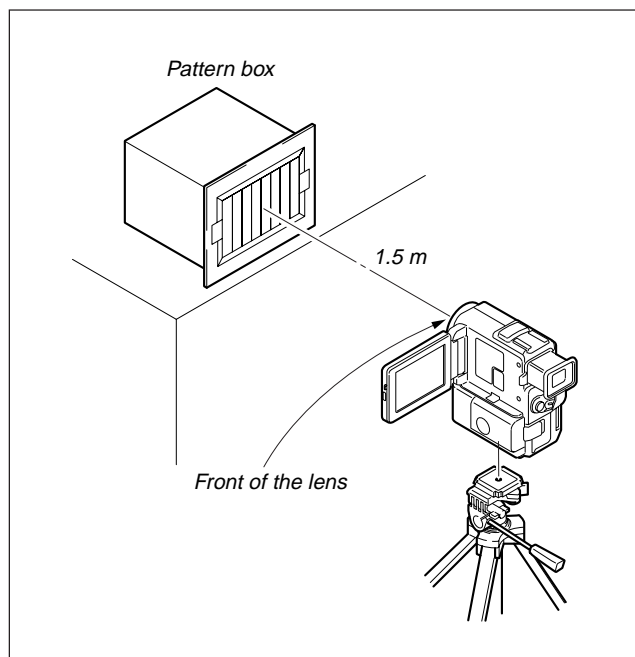

Fig. 5-1-2.
1) Connect the equipment for adjustments according to Fig. 5-1-2.
**Note 3:** As removing the control switch block (FK-30350)(removing the VC-245 board CN002) means removing the lithium 3V power supply (BT4001), data such as date, time, user-set menus will be lost. After completing adjustments, reset these data. If the cabinet (R) has been removed, the self-diagnosis data, data on history of use (total drum rotation time etc. ) will be lost. Before removing, note down the self-diagnosis data (data of page:2, address: B0 to C6) and the data on history use (data of page: 2, address: A2 to AA). (Refer to “SELF-DIAGNOSIS FUNCTION” for the self-diagnosis data, and to “5-4.Service Mode” for the data on the history use.)